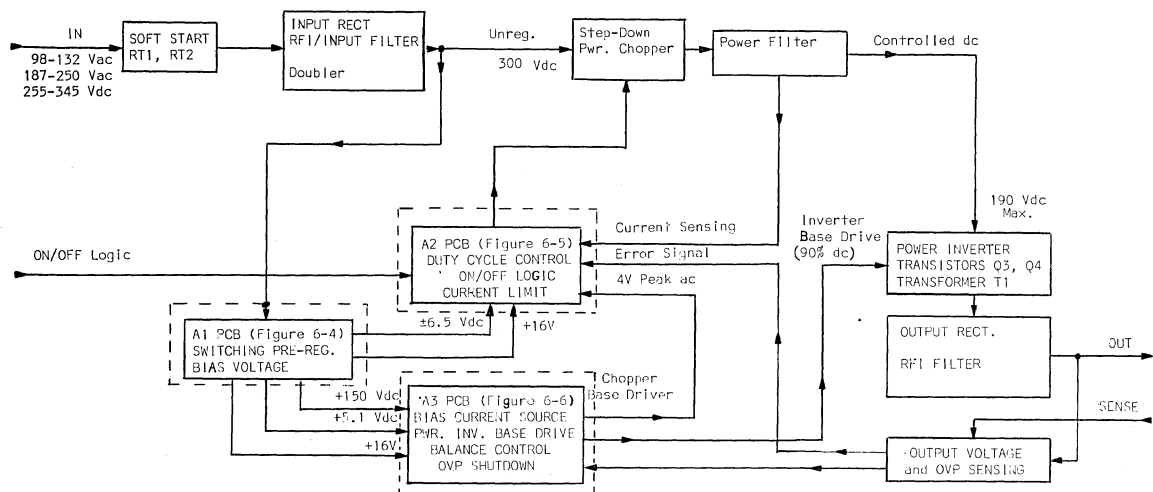

Figure 4-1 SSD Simplified Block Diagram
4.1 SUMMARY (Refer to Figure 4-1, Block Diagram)